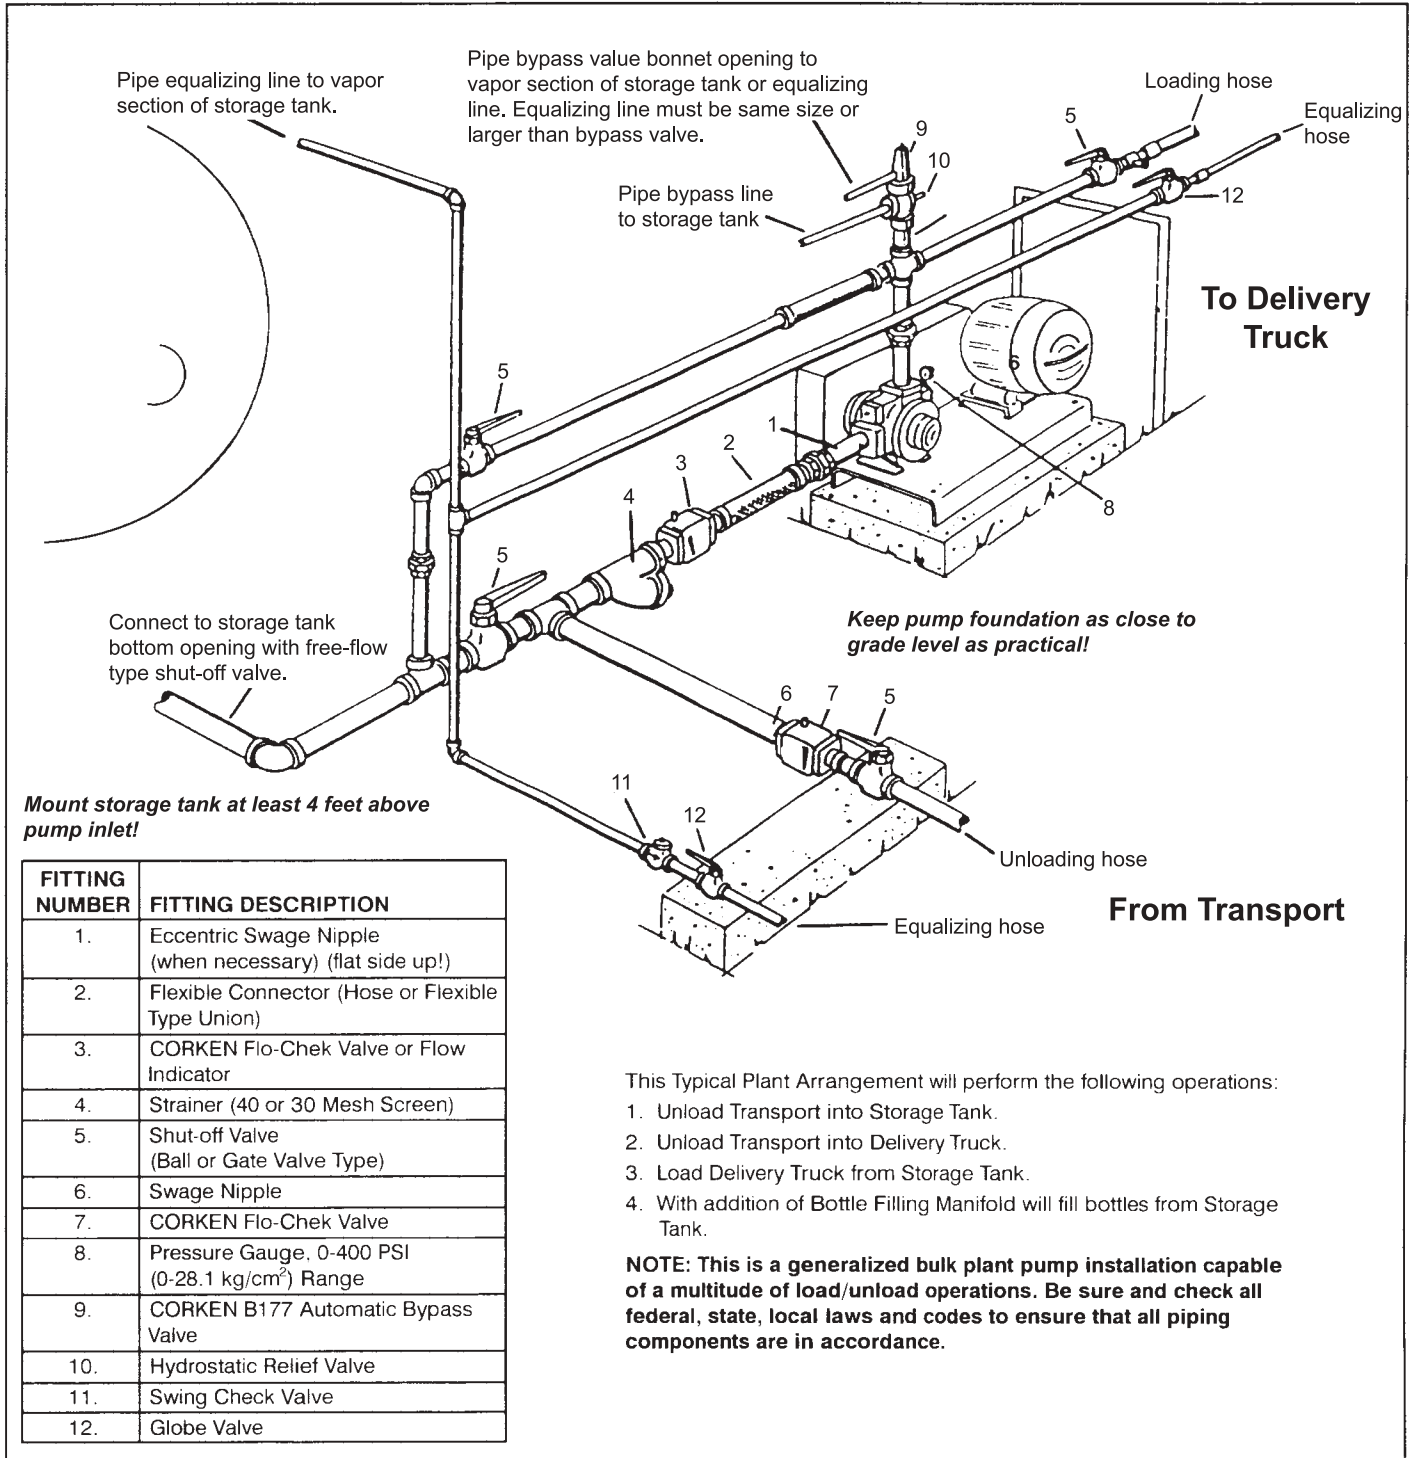

Figure 2
No pump can discharge more liquid than it receives, so the pump location and the inlet piping must be given careful attention. If the inlet piping is inadequate to supply the demand of the pump, you may expect trouble. The inlet sizes shown in figure 2, page 7, are the smallest size piping you can use with success.
7. The minimum inlet piping sizes shown in figure 2, page 7, must be observed.
4. The minimum outlet piping sizes shown in figure 2, page 7 should be observed.
Another way to consider this principle is to remember that it takes two holes in an oil can for oil to be poured smoothly from the can; one for the oil to exit and the other for the air to enter. The piping and hose sizes shown in figure 2, page 7 should be considered minimum.